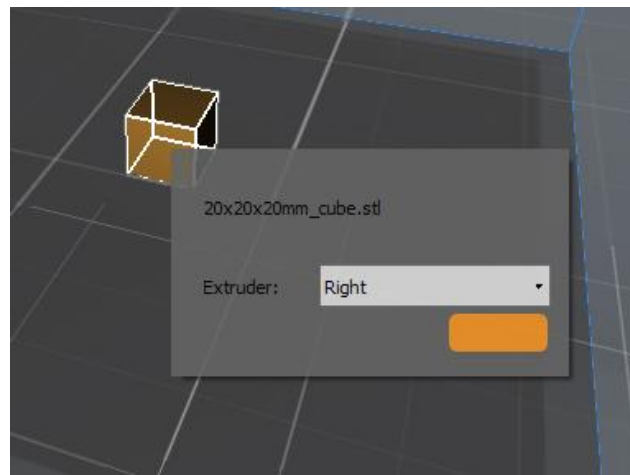

Figure 17 : Extruder Selection Dialog Box
5. Right click anywhere on the workspace. A popup dialog box is displayed (see Figure 17).